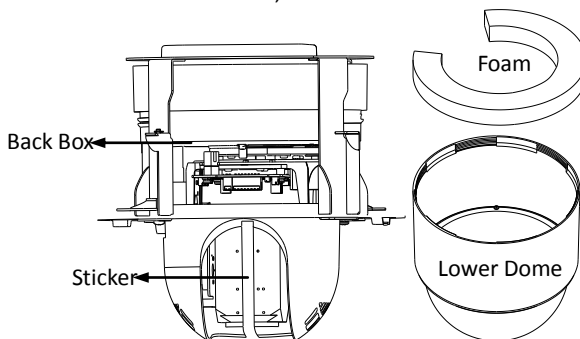

Figure 2-8 Remove the Protective Accessory
1. Rotate the lower dome counterclockwise to separate it from the back box as shown in Figure 2-8.